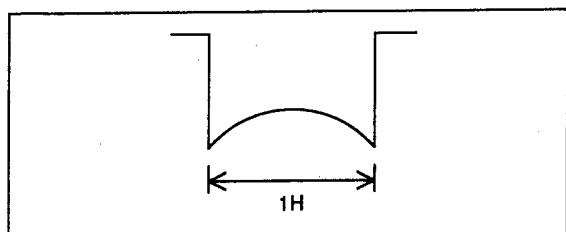

Fig. 45
3. Adjust R3526 (H. Luminance shading correction) to achieve waveform as shown in Fig. 45.